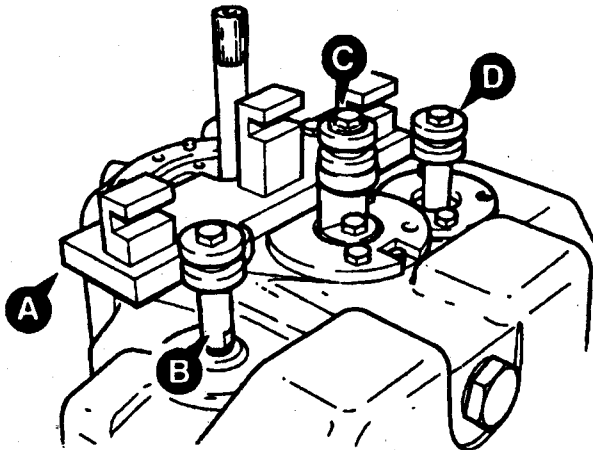

Figure 55.
1. Install bar A as shown in Figure 55. Install the adapters B, C and D as necessary.